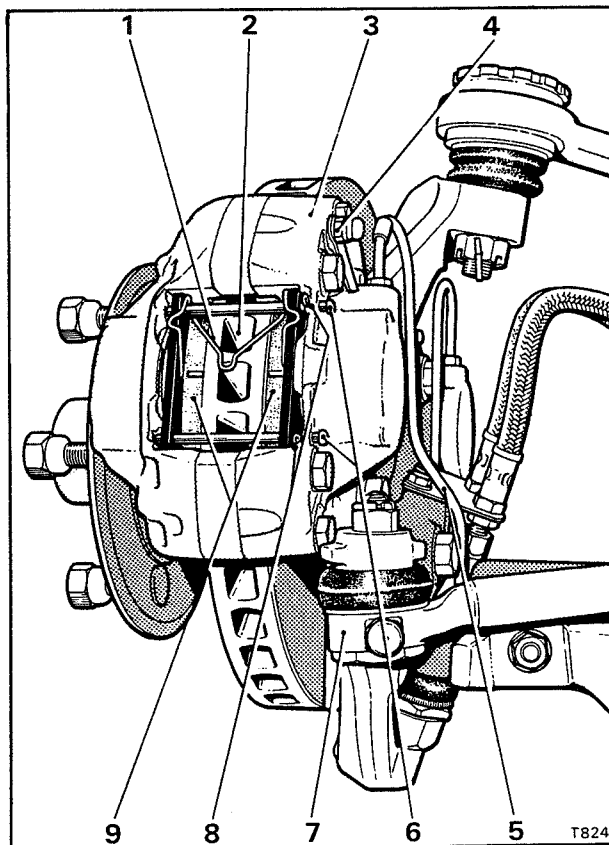

Fig. G33m Front wheel front brake caliper
11. Locate the ends of the 'M' spring into the centre holes of the brake pad back plate. Ease the spring into position and secure with the leading, pad retaining pin. Fit the pin retaining clip. When fitted the 'ears' of the 'M' spring must rest on the edge of the brake pad backing plate, with the bends at the top of the 'M' figuration butting against the caliper body (see Fig. G33m).